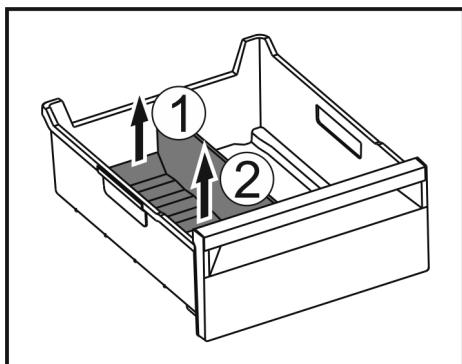

Fig. 144
- ▶ Lift the rear part of the ice compartment divider. Fig. 144 (1)
- ▶ Remove the ice compartment divider upwards. Fig. 144 (2)